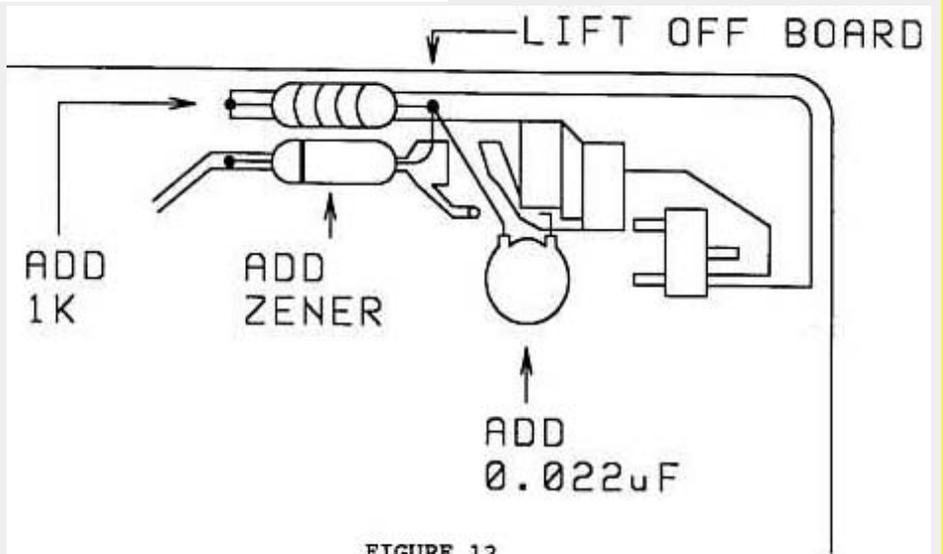

FIGURE 12
26. Place the 3.0V zener diode on the board. Size and cut the diode's cathode lead. Solder the lead to the board. Figure 12.
27. Place the 1K ohm resistor on the board. The body of the resistor must be parallel to the diode. Size and cut the resistor's left hand lead. Solder the lead to the board. Figure 12.
28. Bend the diode's anode lead and solder it to the resistor's right hand lead. Do not allow the leads to touch the board. Trim the leads after soldering. Figure 12.
29. Prepare the 0.22  $\mu$ F capacitor for installation. Place the component on the board to size and cut the leads. Figure 12.
30. Solder the left hand lead to the junction of the zener diode and 1 K ohm resistor. Do not let the connection touch the board. Figure 12.
31. Solder the right hand lead to the board as shown. Figure 12.